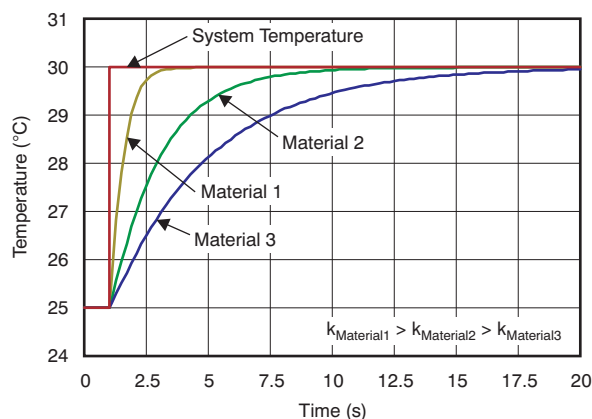

Figure 1. Example of Materials with Different Coefficients of Thermal Conductivity and Corresponding Reactions to a Step Input in Temperature
- k_x : Coefficient of thermal conductivity of a given material. This coefficient is defined as the rate at which heat flows through a given material. k_x is measured by heating a material through transients and then measuring the change in temperature over time. This coefficient can be understood as a *thermal time constant* because it is analogous to an RC time constant in electronics. Materials with larger k values have smaller thermal time constants and tend to settle faster with regard to changes in system temperature than do materials with smaller values of k . Figure 1 shows an example of three materials with different k values and the respective reaction to a step increase in system temperature.